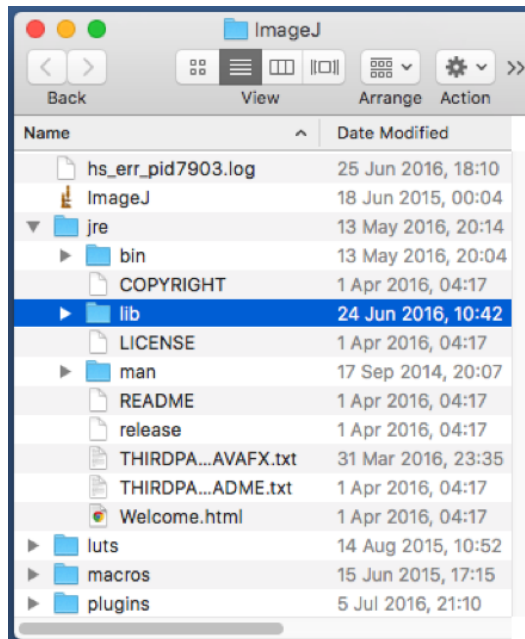
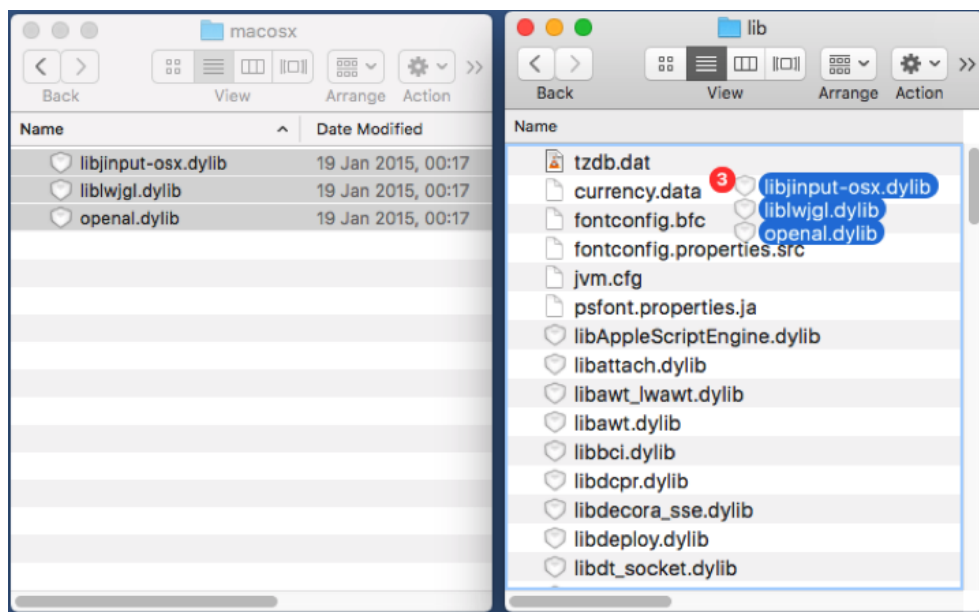

Figure 3: ImageJ library folder.
Figure 4: Copying the downloaded native library files to the ImageJ library folder (use the files relevant to your OS).
6. To ensure that ImageJ can locate these native libraries install the files relevant to your operating system in your ImageJ library folder (figure 3). This can be done by dragging the files from the relevant folder to your ImageJ Library. Figure 4 shows an example of this using Mac OS where the files under lwjgl-2.93 -> native -> macosx are copied to imagej -> jre -> lib. For Windows replace macosx with Windows.